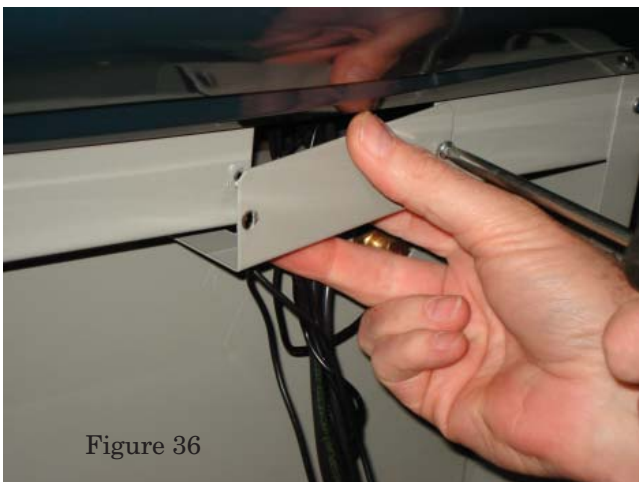

Figure 36
4. Remove the panel to gain access to the strain relief cable clamp. See Figure 36.